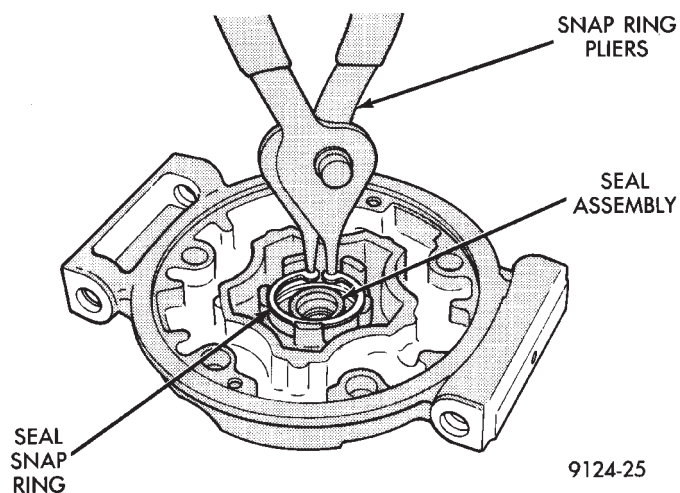
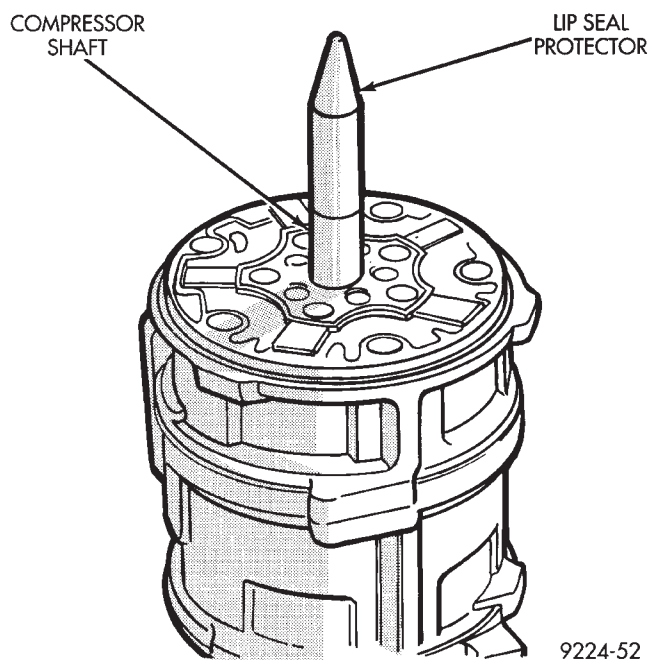

Fig. 11 Seal Snap Ring
Fig. 12 Installing Lip Seal Protector
- (7) Install seal snap ring (Fig. 11).
- (8) Lubricate front cover O-ring with refrigeration oil and carefully place it in seal groove.
- (9) Install lip seal protector on shaft (Fig. 12).
- (10) Install front cover to front compressor body.
- (11) Install compressor through-bolts and finger tighten only. After bolts have been finger tightened, torque to 29 N•m (260 in. lbs.).